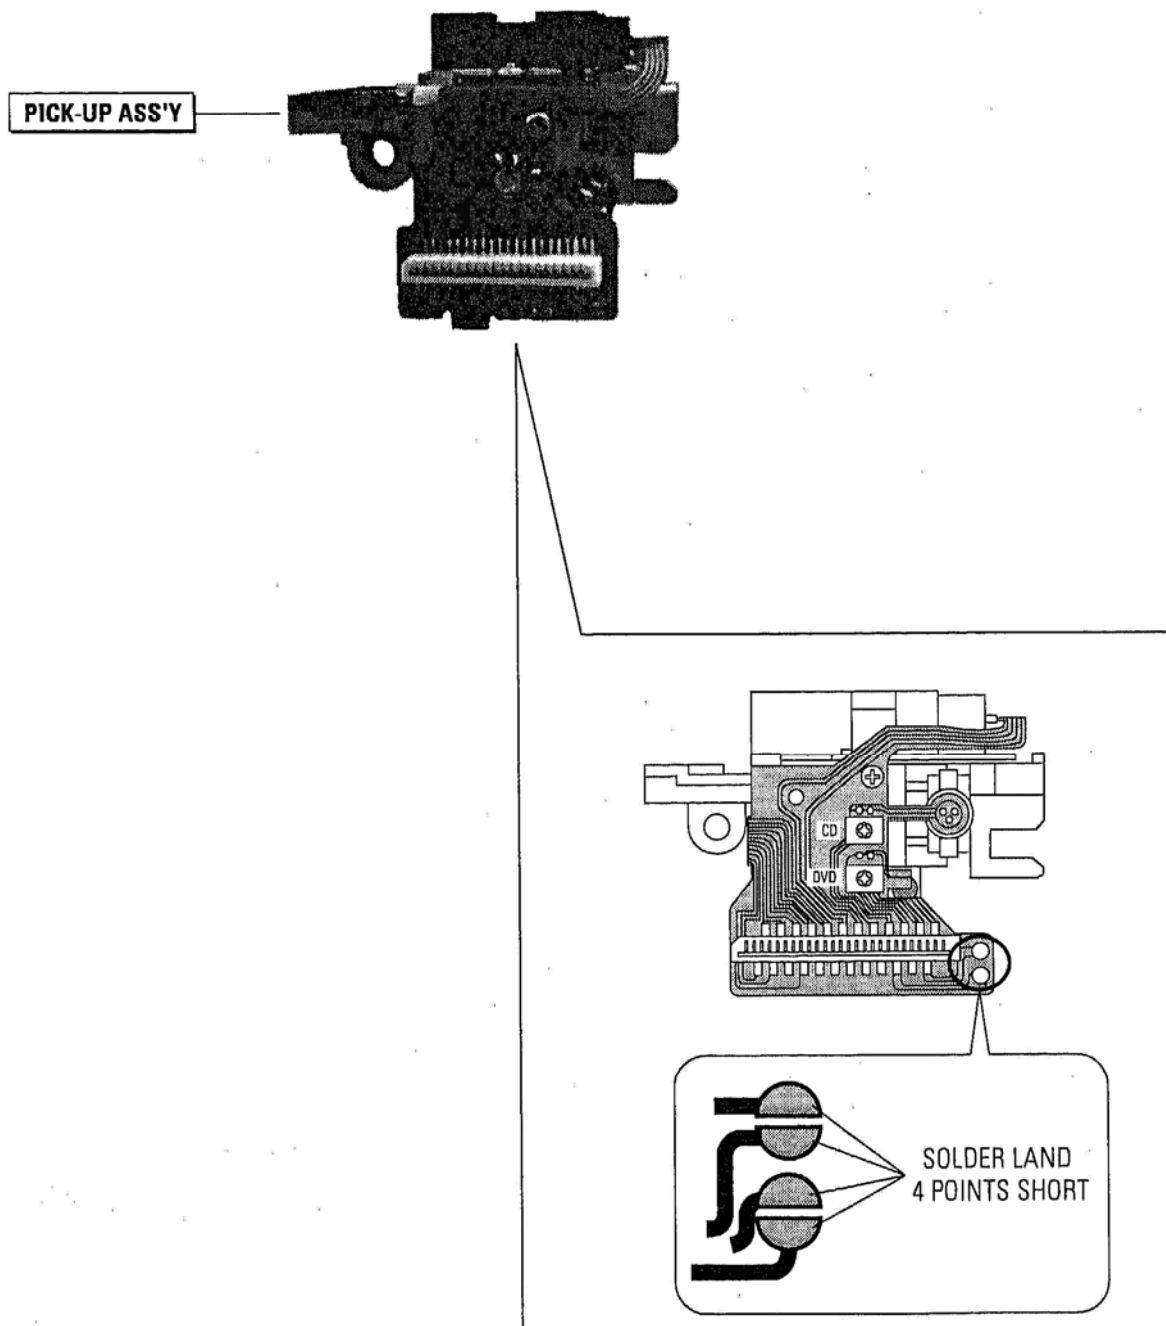

Fig. 1-4
- 3) Solder land 4 points short on Pick-up.(See Fig. 1-4)